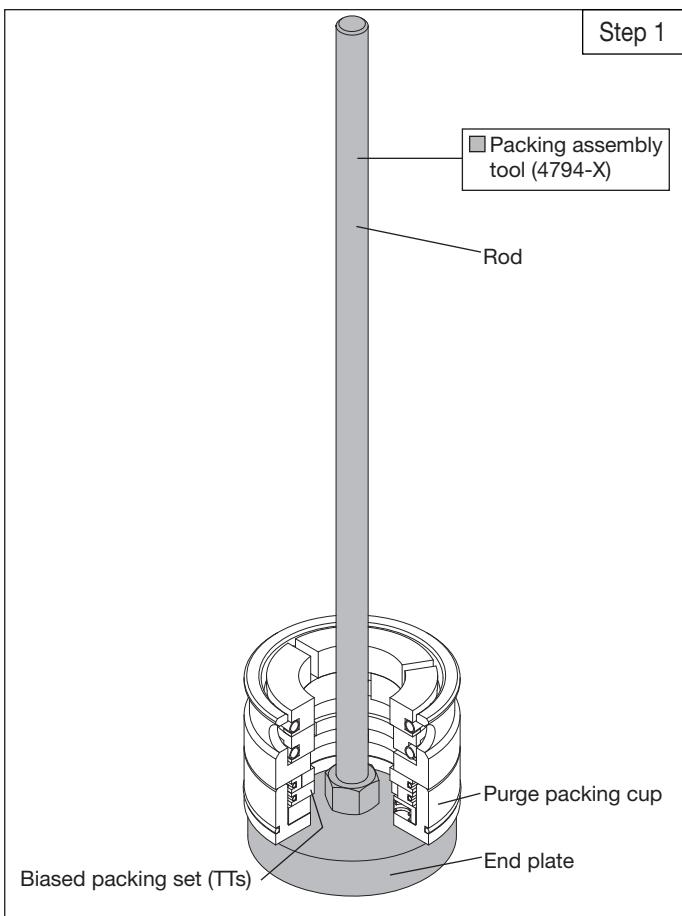

Figure 5.6C: Packing assembly
- b. Place a purge packing cup and a biased packing set (TTs) onto the end plate of the tool and over the rod of the tool. The cylinder side of the packing should face the end plate of the tool such that the springs in the biased packing set face toward the end plate. **NOTE: The six springs in the biased packing sets are very small and fit loosely, so extra care is needed to keep from losing them or having them become dislodged during assembly.** Place the oil wiper ring cup and oil wiper ring set onto the purge packing cup. A full inner packing set is now positioned on the end plate of the tool. See figure 5.6C.